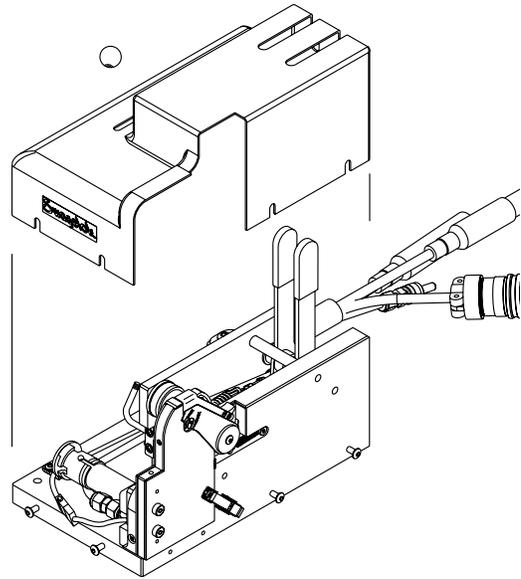

Figure 58 Reinstalling the Metal Shroud
21. Tighten the eight screws that hold the metal shroud in position. See Figure 58.